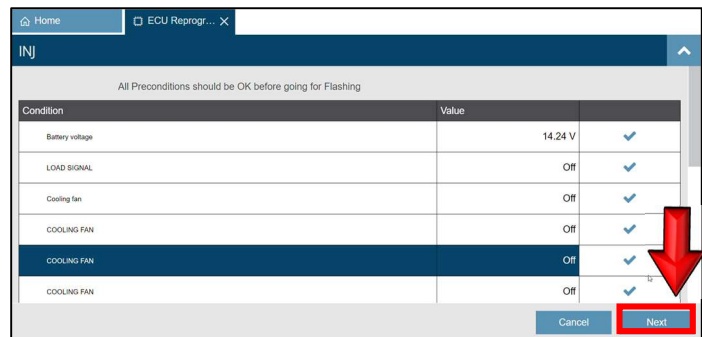

Figure 16
16. Verify all preconditions show a check mark in the far right column and select **Next**. (Figure 16)